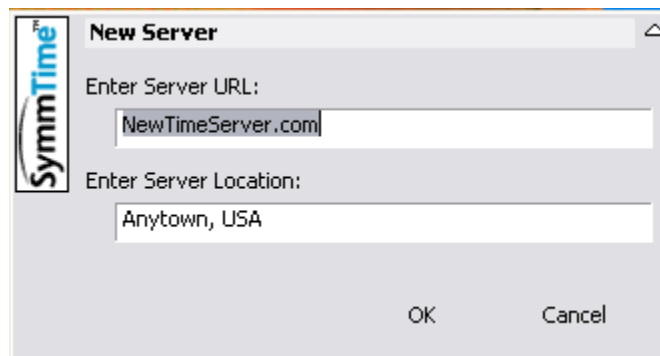

Figure 4-21. The New Server Window in SymmTime
4. Click **Add Server**. The New Server window appears, as shown in Figure 4-21.